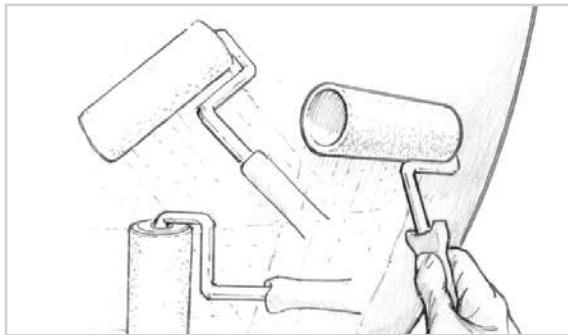

Figure 13-3 Apply a thin, even film of epoxy with a foam roller.
5. Apply a second coat of epoxy to the hull before the first coat becomes tack free. Spread the epoxy out to a thin even film with the thin foam roller (Figure 13-3). Continue applying the epoxy, overlapping small coverage areas until the batch is used up.